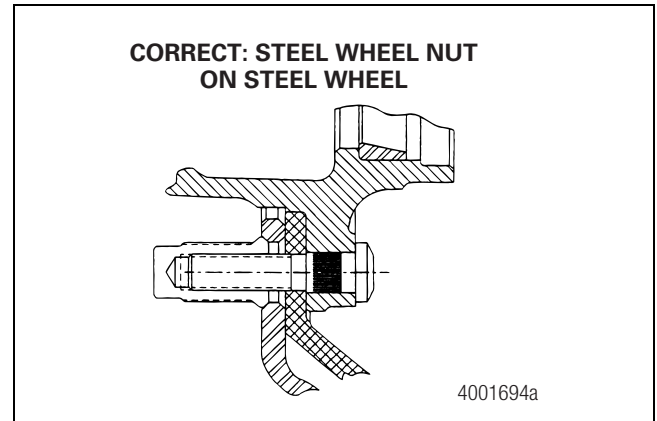
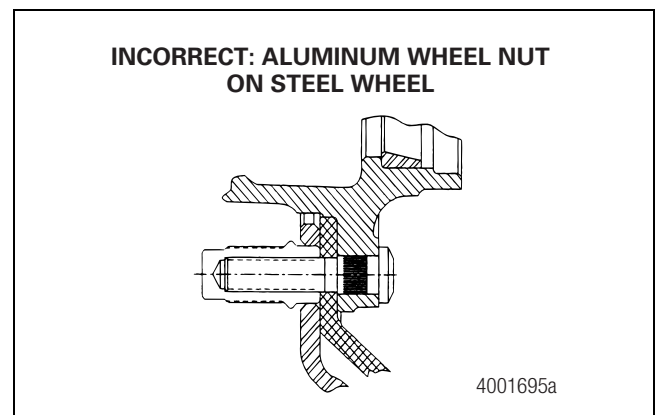

Figure 13.42
Figure 13.43
7. Install steel wheel nuts onto steel wheels. Do not install aluminum wheel nuts. The extension of the aluminum wheel nut can bottom against the hub flange or brake drum before the disc is clamped correctly. Figure 13.42 and Figure 13.43.